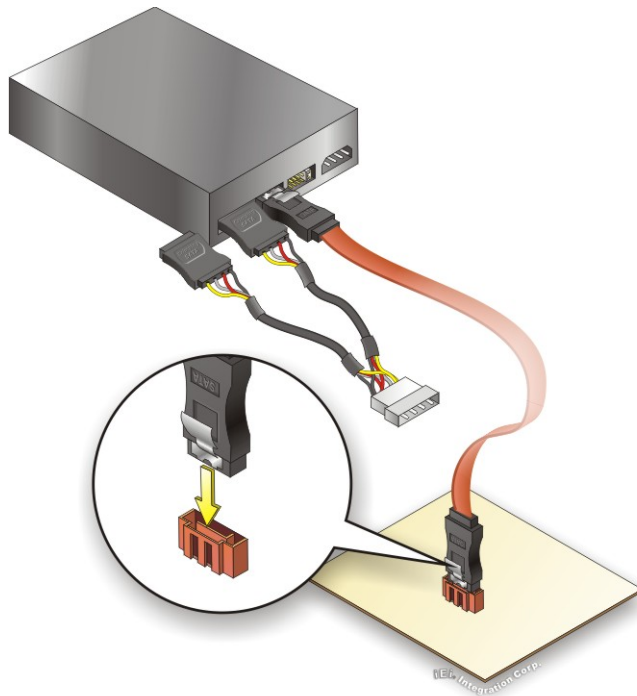

Figure 4-11: SATA Power Drive Connection
- Step 3:** Connect the cable to the SATA disk. Connect the connector on the other end of the cable to the connector at the back of the SATA drive. See **Figure 4-11**.
- Step 4:** Connect the SATA power cable. Connect the SATA power connector to the back of the SATA drive. See **Figure 4-11**.